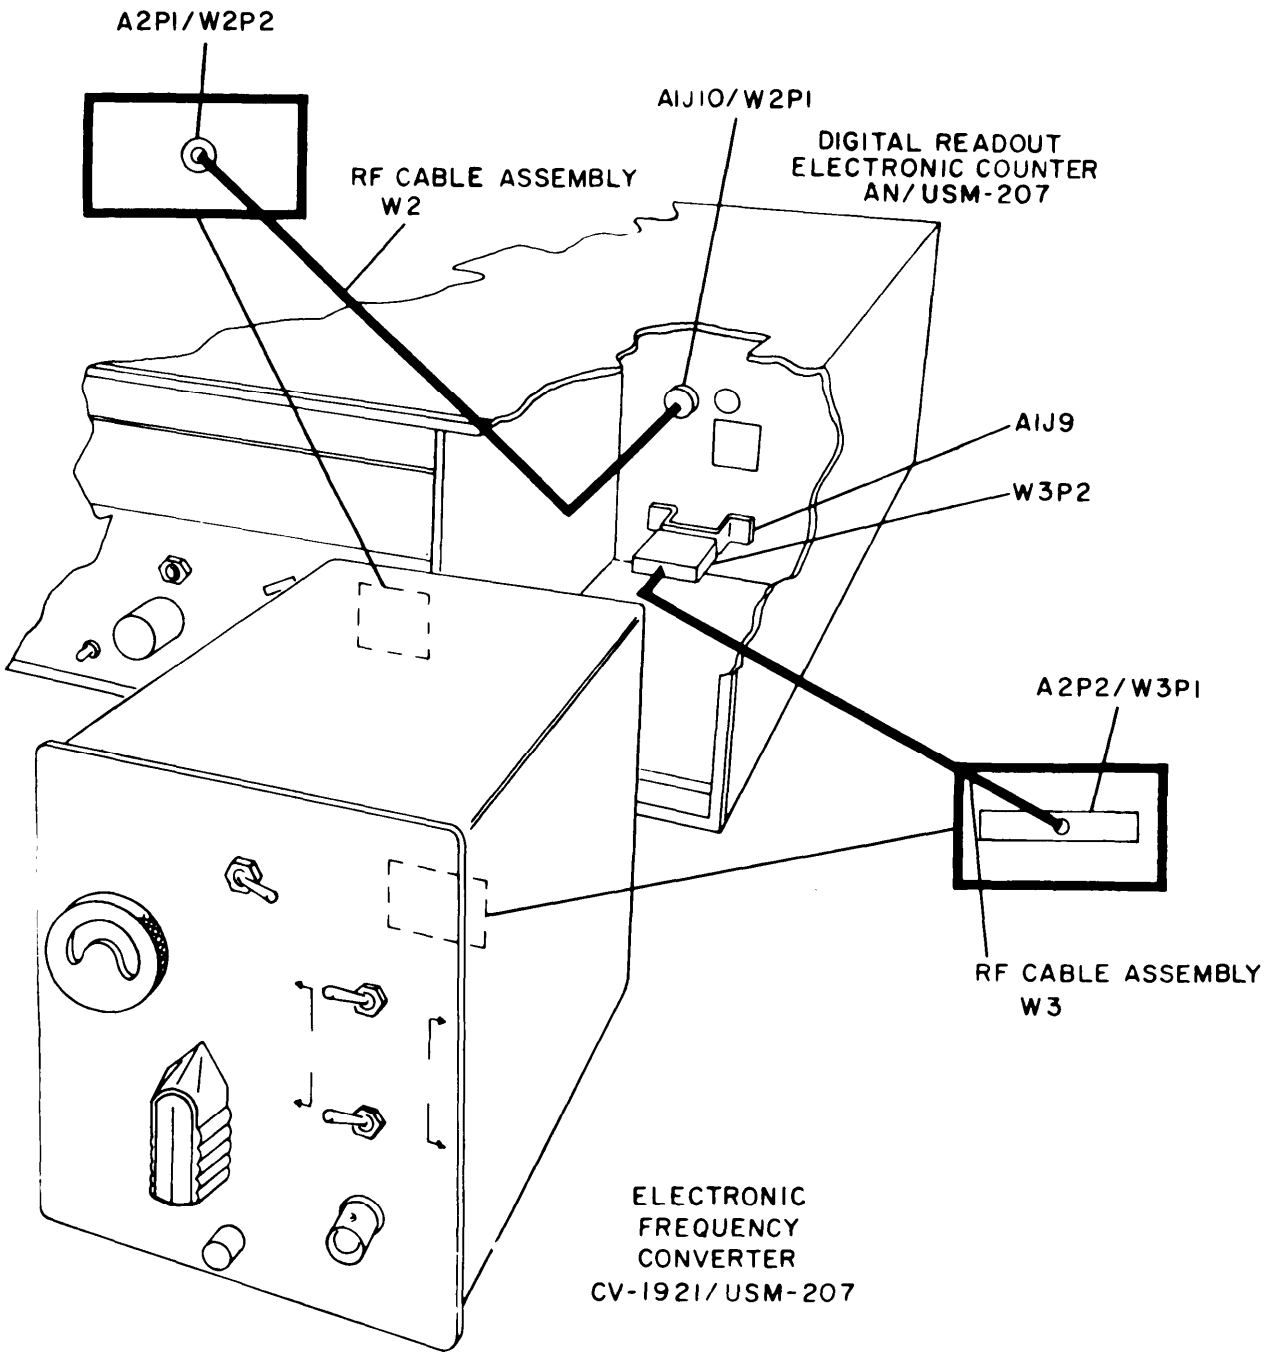

Figure 5-3. Electronic Frequency Converter A2, Preliminary Test Setup
## (1) PRELIMINARY TEST SETUP (figure 5-3).